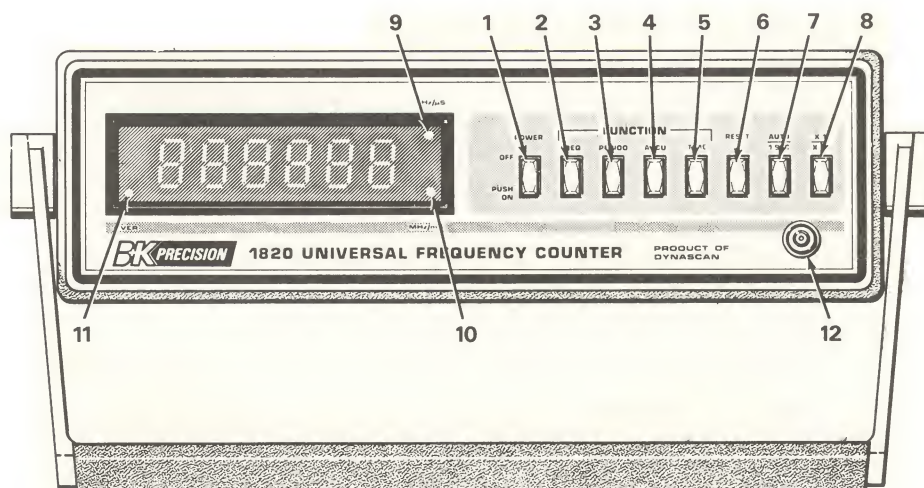

Fig. 3. Model 1820 front panel.
A. CONTROLS AND FEATURES (See Fig. 3 and 4)